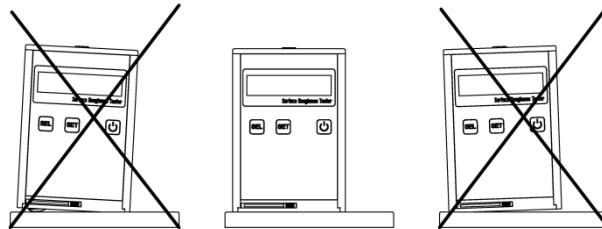

Figure 4-2 Front View During Test
3. Refer to Figure 4-2 and Figure 4-3 to place the instrument on the measured surface of the working piece correctly, stably and reliably;